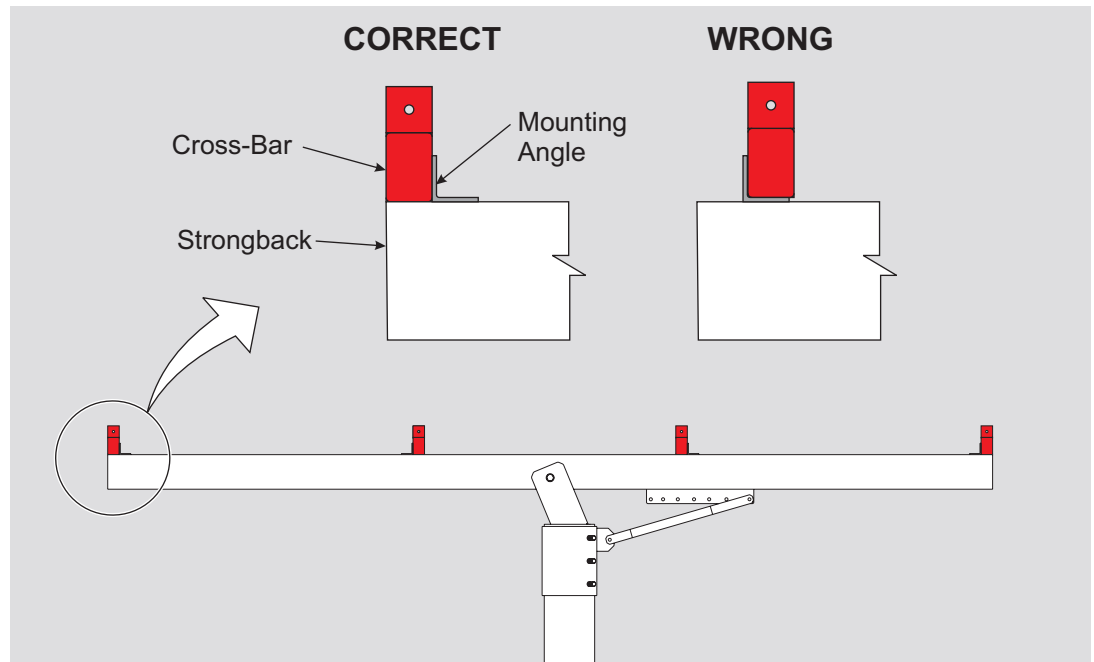

Figure 3-1: Cross-Bar Positioning relative to Mounting Angles
Cross-Bars are mounted to the outside of the Strongback mounting angles (these are welded to the Strongback); they are not nested into the Mounting Angles. (See Figures 3-1 and 3-2)
- B. Continue in this manner and install the remaining three Cross-Bars to the Strongback. Refer to Figure 3-1 as needed for proper positioning.